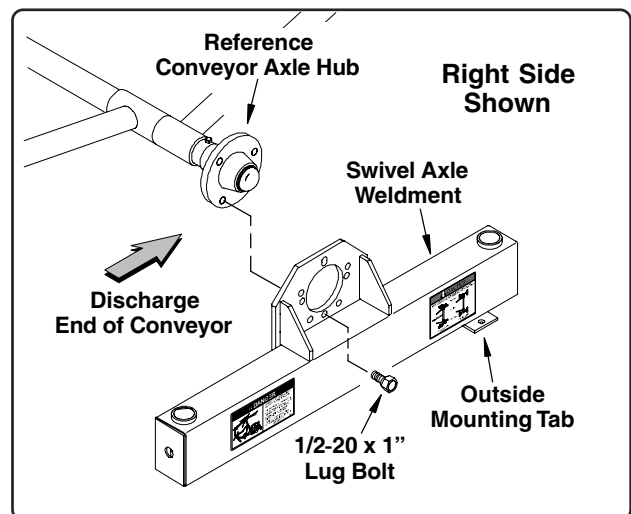

Fig. 1
2. Mount the swivel axle weldment to the conveyor axle hub as shown in Fig. 1 below. Secure the swivel axle to the conveyor hub using four (or five) 1/2-20 x 1" lug bolts.
NOTE: There is a right and left hand side swivel axle weldment. The right hand side is shown in Fig. 1. The outside mounting tab on the right side swivel axle will be positioned towards the discharge end of the conveyor.